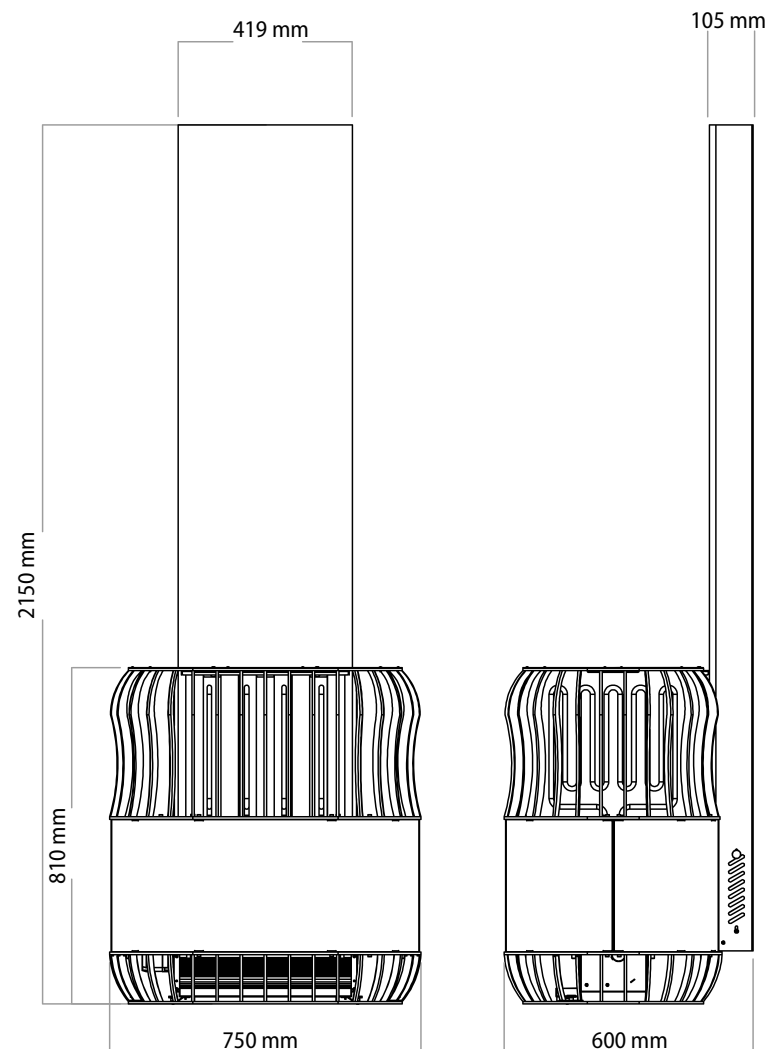

Figure 4
- The dimensions of the device are shown in Figure 4.